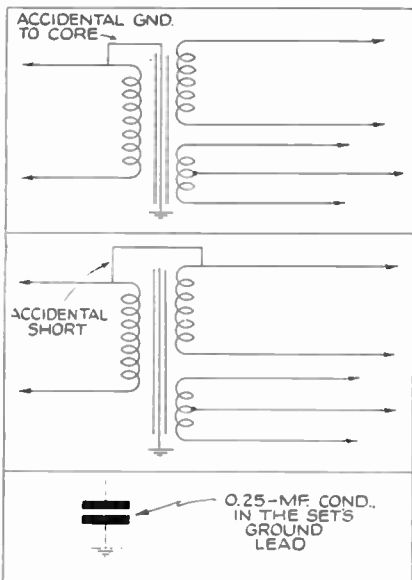

Fig. 58
(A) Evidently the shielding of your set is grounded to the set wiring, which is connected to the lighting lines, and contact with it and the ground (radiator) completes the lighting line's circuit to ground, through your body. It is also possible that the condenser used to isolate from the D.C. is broken down, or that the shock is merely due to the condenser's discharging through your body. See Fig. 58.